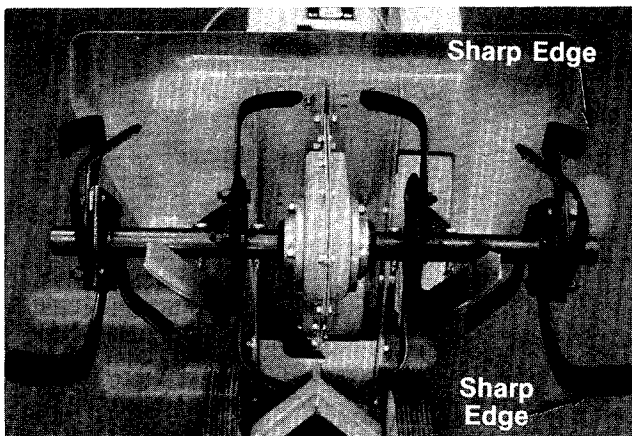

FIGURE 11.
- Check to be certain the tine assemblies are on the tine shaft so that the sharp edge enters the soil first. See figure 11.